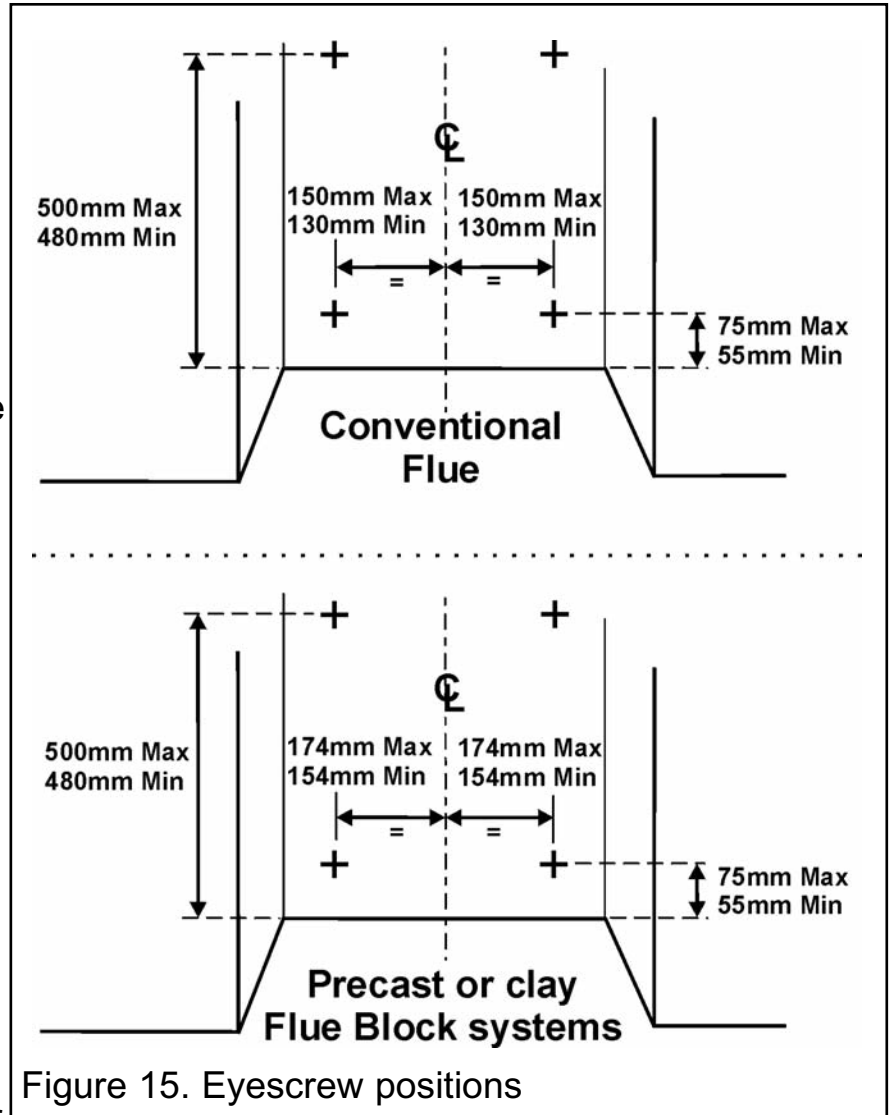

Figure 15. Eyescrew positions
2. Drill four holes in the rear wall of the fireplace for the fibre / wooden wall plugs 'F'. The holes should be drilled within the range of positions shown in figure 15 using a suitably sized masonry drill bit for the fibre / wooden plugs supplied. The holes should be equidistant each side of the centre line of the fireplace to ensure that the appliance finishes centrally in the opening when tension is applied to the cables.